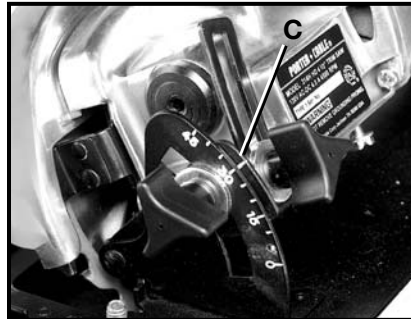

Fig. 3
Loosen the front (A) Fig. 2, and rear (B) Fig. 2 angle adjusting knobs. Tilt saw housing until desired angle graduation mark, on the angle segment, lines up with the indicating line (C) Fig. 3 on the depth adjusting bracket. Firmly tighten knobs to hold saw in the selected position.